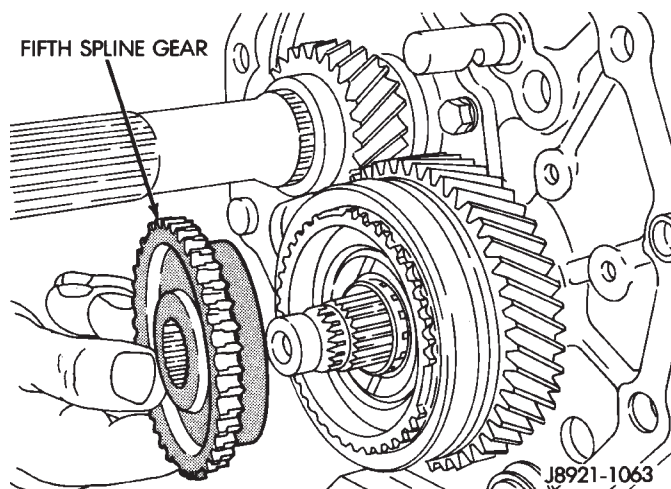

Fig. 33 Removing Fifth Spline Gear
(14) Remove fifth spline gear (Fig. 33).